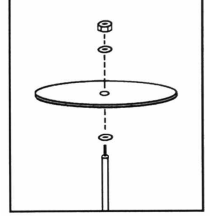

Figure 1
- To access the bulb, remove color disc from post by loosening and removing the nut, upper washer, disc and lower washer (Figure 1).